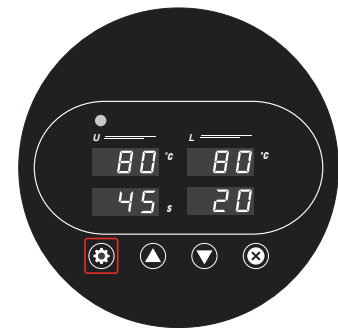
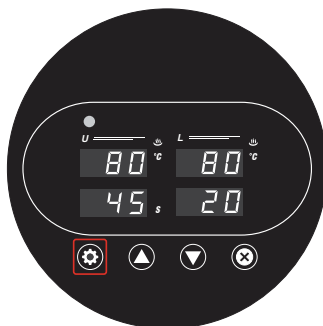

Fig. 9
Fig. 10
9. Press Set  button once more (Fig.9) to record all control panel settings. The platens start heating, and the heating icons are now displayed on the screen (Fig. 10).